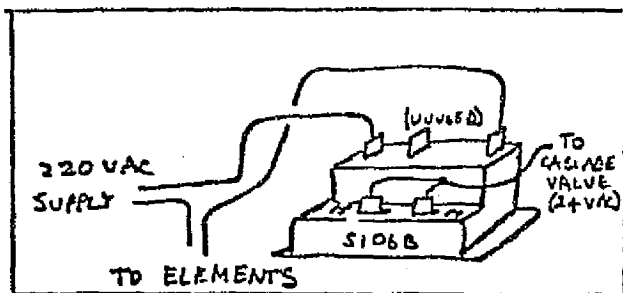

Figure 14: Relay Connections
2.6.3 Electric tank relay installation - (See Figure 14)
- b. Install the solenoid actuated valve (See Figure 14) in the gas supply line to the burner. This will require cutting the line, connecting the appropriate flared fittings to the line, and connecting the valve in the line.